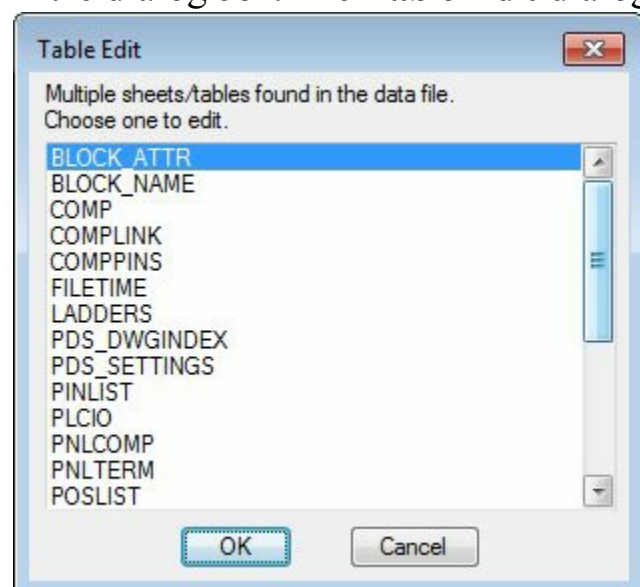

Figure-28. Table Edit dialog box
- Select the desired database file using the options in the dialog box. Click on the **Open** button from the dialog box. The **Table Edit** dialog box will be displayed; refer to Figure-28.